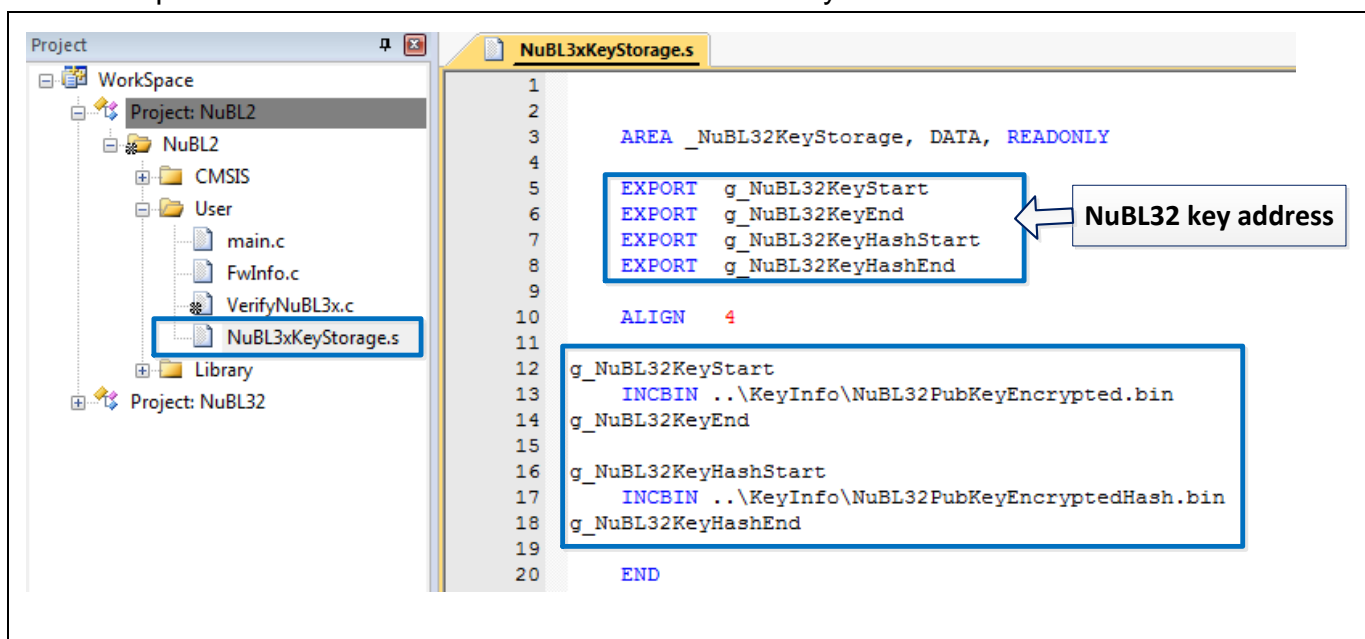

Figure 5-20 Include NuBL32 Key Files
1. Add a NuBL3xKeyStorage.s shown in Figure 5-20 for including all NuBL32 key files in the NuBL2 project. All the related files could be found at "SampleCode\MKROM\SecureBootDemo\NuBL2\KeyInfo".